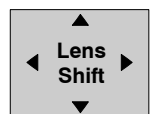

Figure 2-5
- If built-in keypad: Press  + the Arrow keys. See Figure 2-5